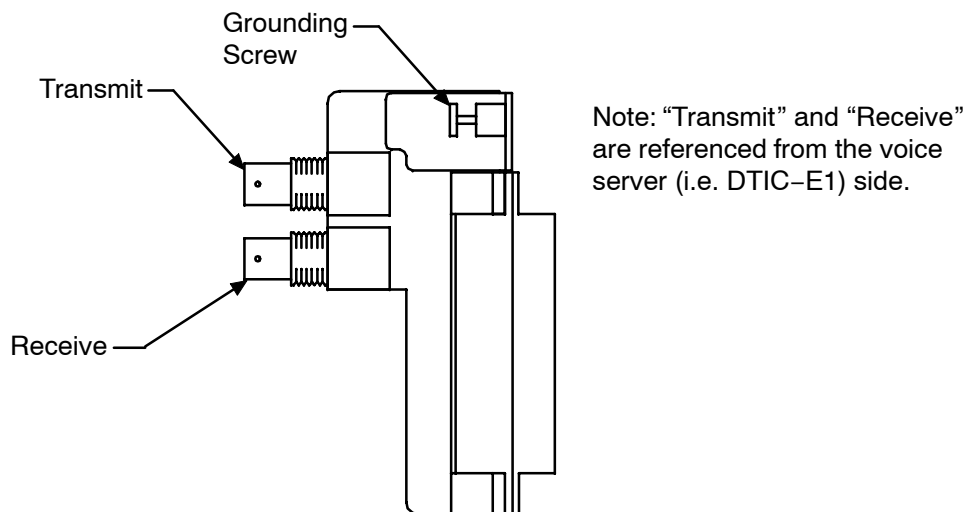

Figure 9-13 75-ohm DTIC-E1 Adapter
- c. Attach the customer-provided 75-ohm transmit and receive coax cables to the appropriate coax connectors on the adapter as shown in Figure 9-13.